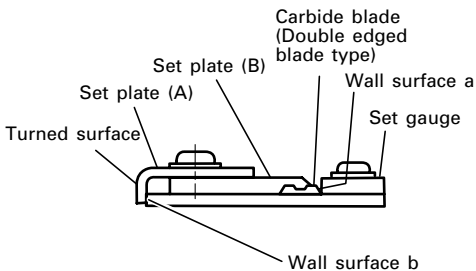

**Fig. 20**
- (2) As shown in **Fig. 20**, after removing the carbide blade, slide set plate (B) in the direction indicated by the arrow to disassemble set plate (B).